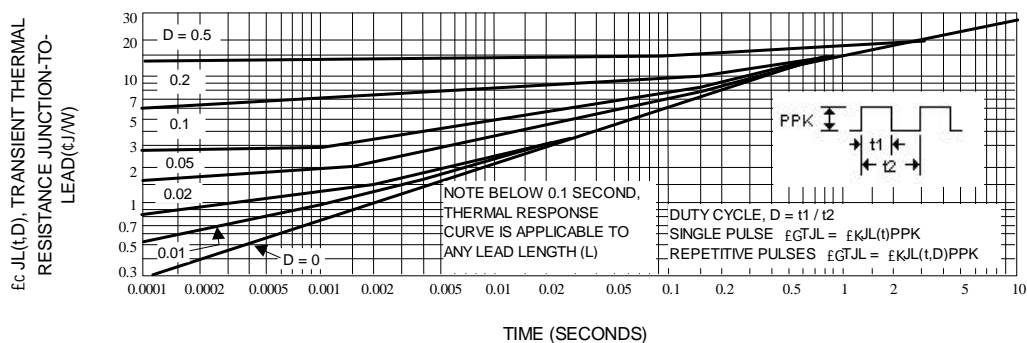
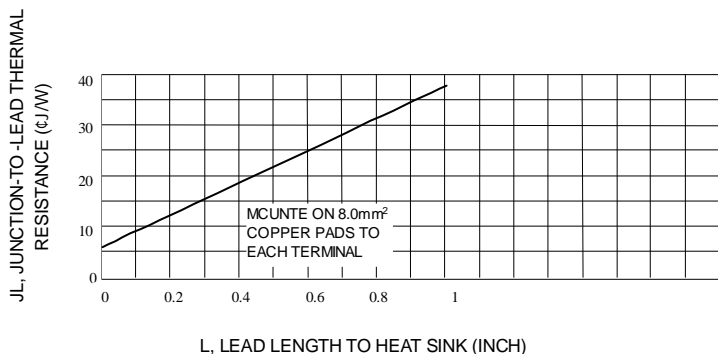
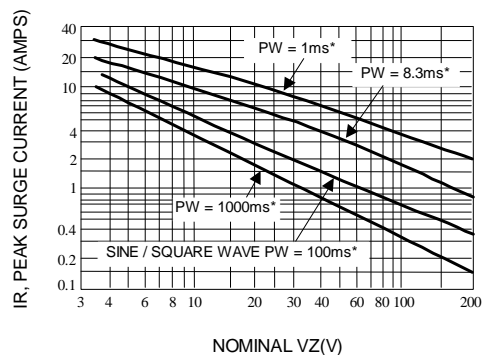
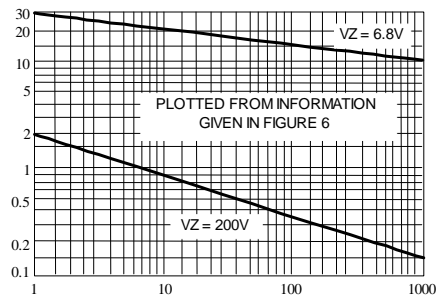

Fig. 3-TYPICAL THERMAL RESPONSE
Fig. 4-TYPICAL THERMAL RESISTANCE
Fig. 5-MAXIMUM NON-REPETITIVE SURGE CURRENT VERSUS NOMINAL ZENER VOLTAGE (SEE NOTE 3)
Fig. 6-PEAK SURGE CURRENT VERSUS PULSE WIDTH(SEE NOTE 3)
3. SURGE CURRENT (I_r) - Surge current is specified as the maximum allowable peak, non-recurrent square-wave current with a pulse width, PW, of 8.3 ms. The data given in Figure 5 may be used to find the maximum surge current for a square wave of any pulse width between 1 ms and 1000ms by plotting the applicable points on logarithmic paper. Examples of this, using the 6.8v and 200V zeners, are shown in Figure 6. Mounting contact located as specified in Note 3. ($T_A=25 \text{ }^\circ\text{C} \pm 1^\circ\text{C}$).
ΔT_{JL} is the increase in junction temperature above the lead temperature and may be found from Figure 3 for a train of power pulses or from Figure 4 for dc power.
Data of Figure 3 should not be used to compute surge capability. Surge limitations are given in Figure 5. They are lower than would be expected by considering only junction temperature, as current crowding effects cause temperatures to be extremely high in small spots resulting in device degradation should the limits of Figure 5 be exceeded.
*** Data of Figure 3 should not be used to compute surge capability. Surge limitations are given in Figure 5. They are lower than would be expected by considering only junction temperature, as current crowding effects cause temperatures to be extremely high in small spots resulting in device degradation should the limits of Figure. 5 be exceeded